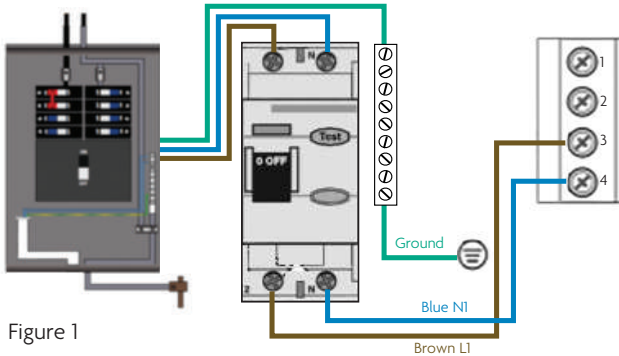

Figure 1
1. Remove all jumper wires as indicated by dotted lines in Figure 1 (previous page).
### AS MANUFACTURED – SINGLE SERVICE (Figure 1)